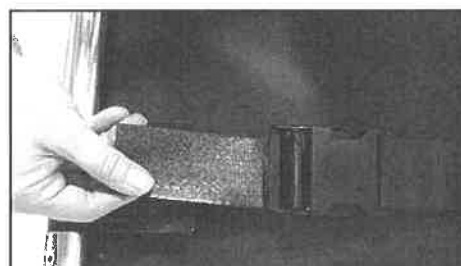

Figure 47 - Tighten Straps
4. Pull the free end of each buckled retaining strap until the strap is tight (Figure 47), then return the chair to the upright position.